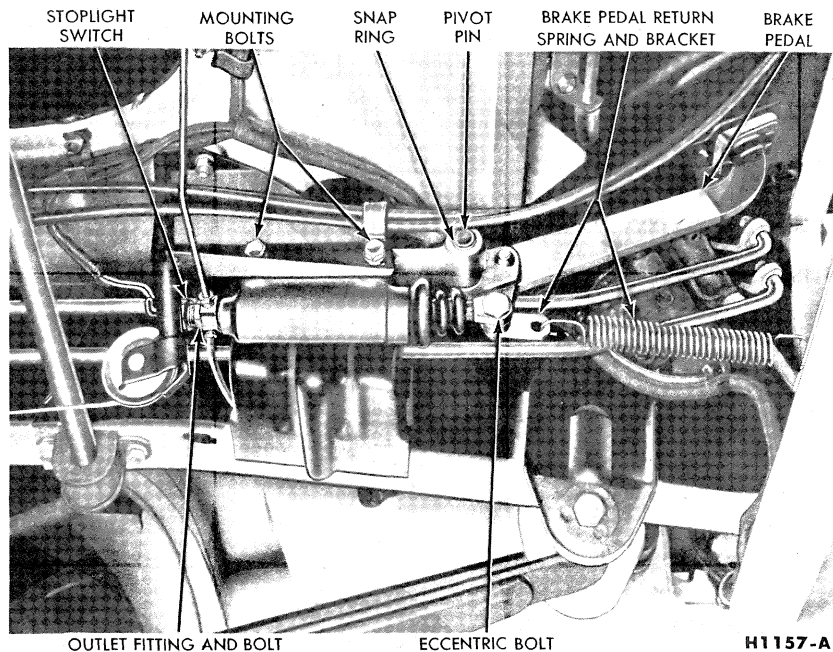
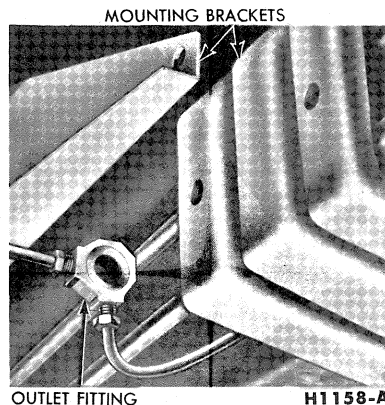

FIG. 10—Brake Master Cylinder—Installed
FIG. 11—Brake Master Cylinder Mounting Bracket
3. Disconnect the brake pedal return spring (Fig. 10).
of the cylinder) and two washers. The outlet fitting will remain suspended by the brake lines (Fig. 11).
2. Swing the cylinder up and into position between the mounting brackets (Fig. 11). Install the mounting bolts and the pivot-pin snap ring (Fig. 10). Torque the mounting bolts to 23-29 ft.-lbs.
5. Connect the return spring to the bracket (Fig. 10).